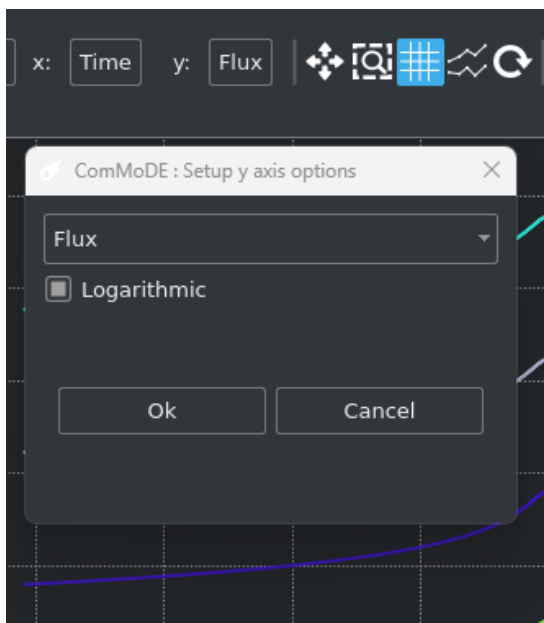

Figure 14: Axis Options Dialog
- A clickable button to access the X-axis options widget. Typically the User can customize the quantity to represent on the cartesian plot abscissas choosing from a list, and change the axis scaling (logarithmic or regular). See figure 14.
- A clickable button to access the Y-axis options widget. Typically the User can customize the quantity to represent on the cartesian plot ordinates choosing from a list, and change the axis scaling (logarithmic or regular). See figure 14.